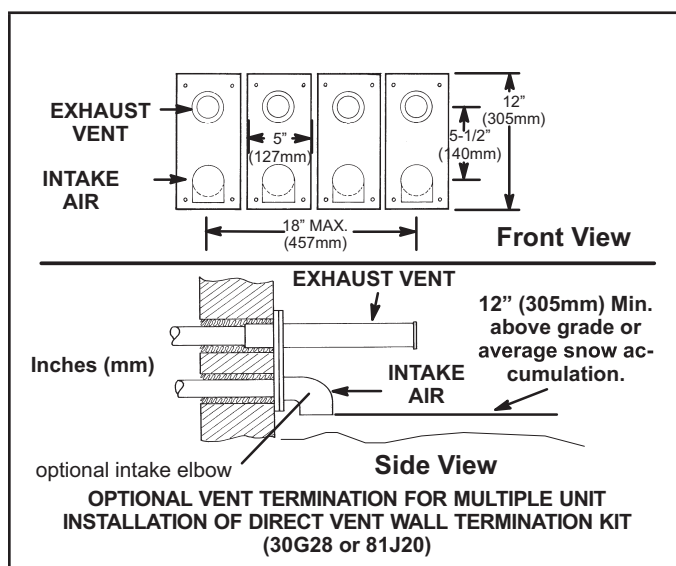

FIGURE 41
- 8 - A multiple furnace installation may use a group of up to four terminations assembled together horizontally, as shown in FIGURE 41.